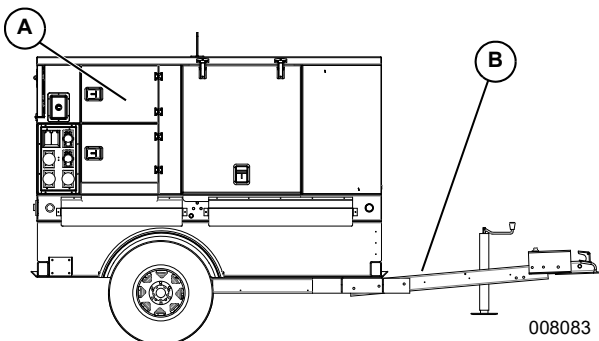

Figure 2-5. Unit and Serial Number Locations
See Figure 2-5 to locate the unit ID tag (A) (located behind breaker door beneath breakers) and vehicle identification number (VIN) tag (B). Important information such as the unit model number, serial number, VIN, and tire loading information are listed on these tags. Record the information from these tags in the event the tags are lost or damaged. This information may be needed when ordering parts or requesting assistance.